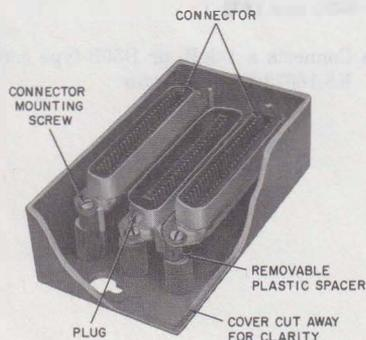
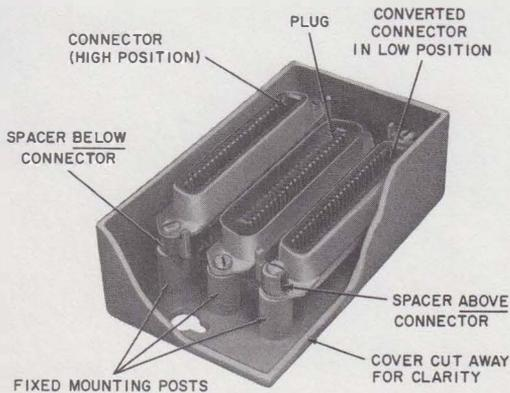

Fig. 14—KS-19252, List 1 Adapter Before Conversion (Early Model)
Fig. 16—KS-19252, List 1 Adapter After Conversion (Early Model)
- (1) Loosen connector mounting screws sufficiently to permit slipout of the two C-shaped plastic spacers (Fig. 14 and 15) which support the connector in base.
- (2) Remove spacers. Connector can then be depressed to its lowest mounting position to receive the B25A connector cable plug.
- (3) Place removed spacers on top of the connector end tabs (Fig. 16) and tighten connector mounting screws.